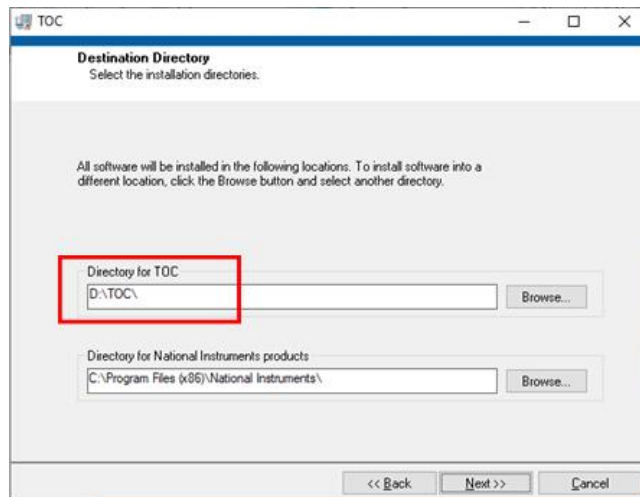

Fig. 3.22
2) The default installation path is D disk. User can set the disk with running authorization (Fig. 3.22).